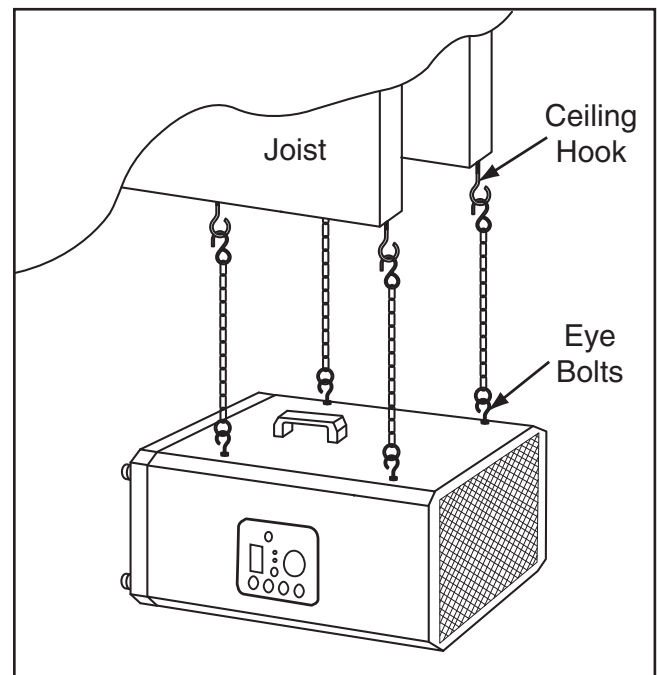

Figure 16. Air filter mounted to joists.
6. With help from an assistant, raise air filter and attach (4) eye bolts to hanging lines (see **Figure 16**).